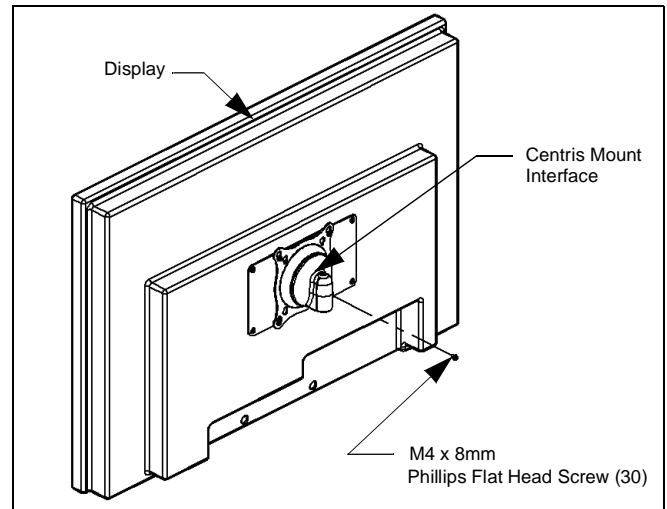

Figure 6: Tighten Lower Mounting Screws
7. Install remaining M4 x 8mm Phillips Pan head Screw (30) into lower mounting hole in interface bracket (10) and tighten (see Figure 6).